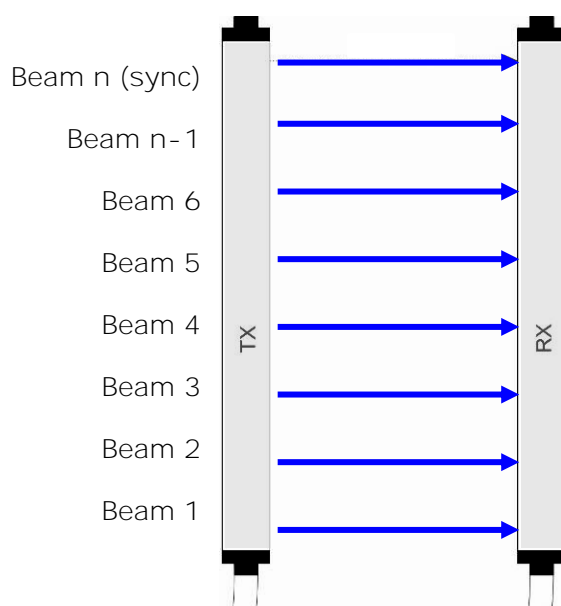

Figure 1
- ➔ Note that beams must always be numbered starting from the bottom, as shown in figure 1. If synchronised via cable, the last beam can also be used for measurements.